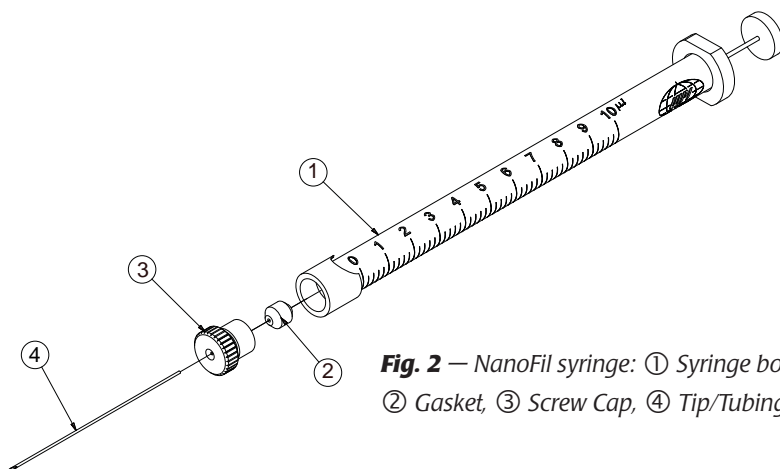

Fig. 2 — NanoFil syringe: ① Syringe body, ② Gasket, ③ Screw Cap, ④ Tip/Tubing.
1. **Installing or changing the tip.** Unlike conventional micro syringes, NanoFil has a unique tip coupling mechanism that holds straight tubing (or tips). The tubing can be made of metal, plastic or even glass. The OD of the tubing has to be close to but not larger than 0.460mm (see Figure 2). To replace the tip, turn the screw cap ③ counter-clockwise and pull the tip ④ out. Insert the new tip by slowly pushing it through the gasket ② and into the glass barrel of the syringe body. Let the end of the tip stop at the zero mark of the syringe and tighten the screw cap until it is “finger tight”. **Do not use a wrench to tighten this cap.** A 26-gauge beveled needle is supplied with the syringe. This needle is for pre-loading the syringe when NanoFil is used with tips smaller than 35-gauge and SilFlex tubing included in the RPE and IO Kit.